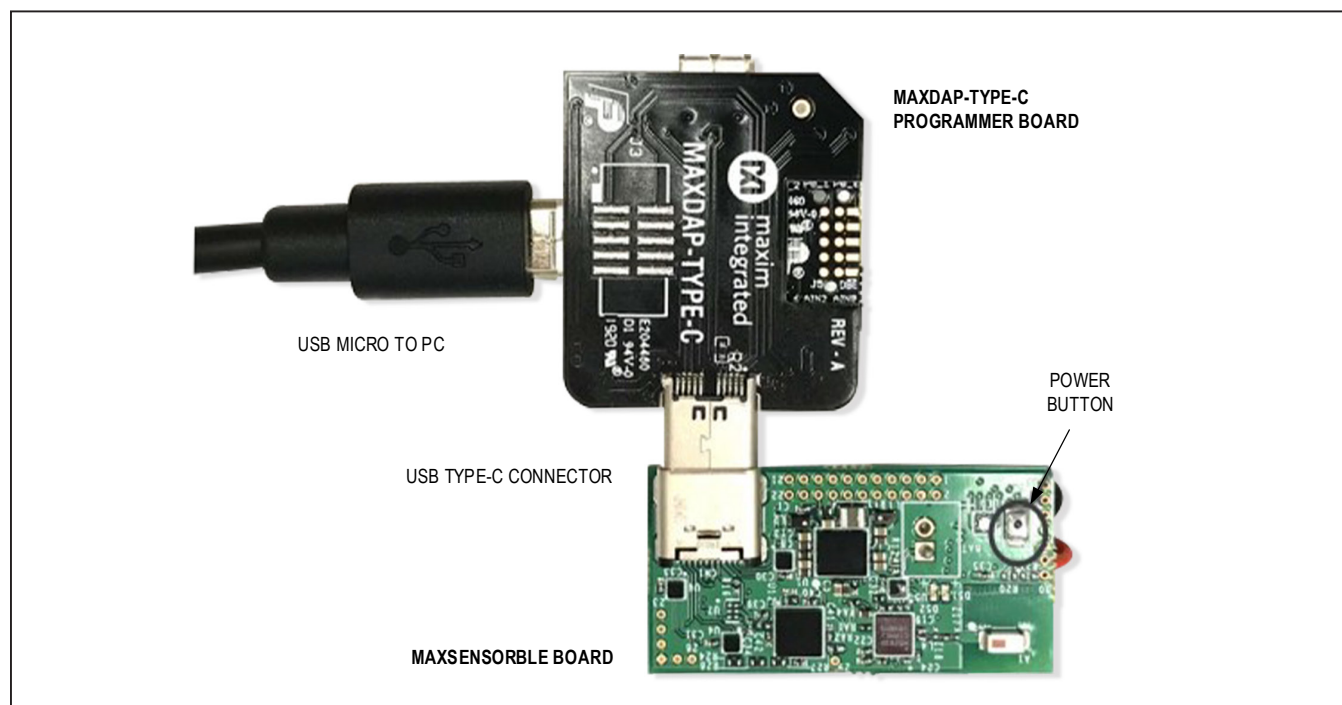

Figure 17. Connections to flash firmware on MAXSENSORBLE_EVKIT_B board.
- 1) See Figure 17 for the following step. Power down the MAXSENSORBLE_EVKIT_B board. Connect the MAXSENSORBLE_EVKIT_B board to the MAXDAP-TYPE-C programmer board. Ensure that the label "MAXDAP-TYPE-C" is on the same side as the top of the MAXSENSORBLE_EVKIT_B board, as Type USB-C direction matters. Connect the micro USB-B to USB-A cable to your PC via HDK USB port on the MAXDAP-TYPE-C board. After the cable is connected to your PC, the MAXSENSORBLE_EVKIT_B board will power up and have red & yellow status indicator LEDs on. Do not press the power button at this time!